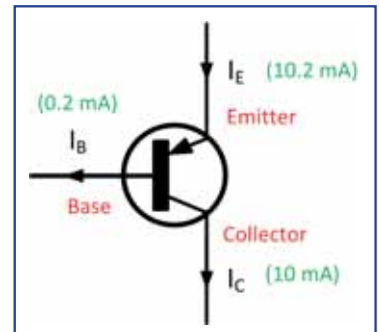
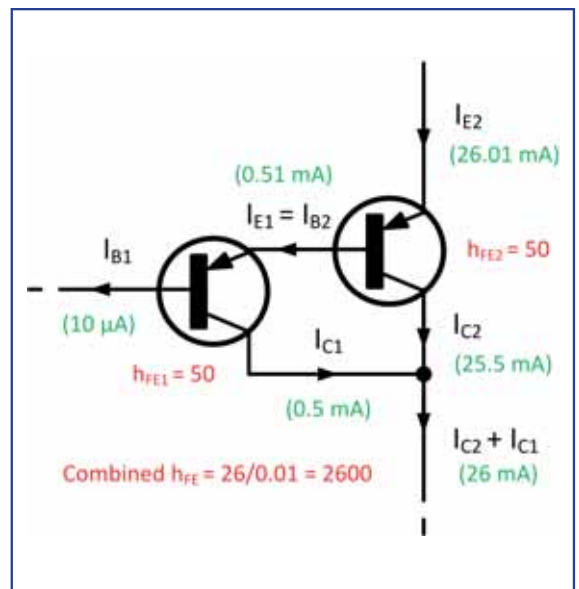

Fig.1. A PNP transistor showing typical current flow
Fig.2. Two PNP transistors connected in a PNP Darlington configuration
the third is a silicon-controlled rectifier (SCR). The two transistors (both PNP types – see Fig. 1) are needed to amplify the tiny current that our home-made rain sensor produces, and they are connected in a high-gain Darlington configuration (see Fig. 2). The output of the Darlington stage supplies current to trigger the SCR. This device acts as a latched switch (more about this later) which, when triggered, remains ‘on’, supplying current to an inexpensive electronic buzzer.
The current flow in a PNP transistor is shown in Fig. 1. The equation that relates current flow in the collector (C), base (B), and emitter (E) of a transistor is:
The current gain of the PNP transistor shown in Fig. 1 is thus:
So, in Fig.2, if each transistor has a current gain of 50 (which is actually well below the minimum current
gain for the BC557 transistor that we've used in the moisture detector), then the combined current gain will be 2600, and a current of only 10 μ A applied to the base of the first transistor will result in a collector current of 26mA flowing in the second transistor (see Fig. 2). This should be more than adequate for use in our moisture sensor!